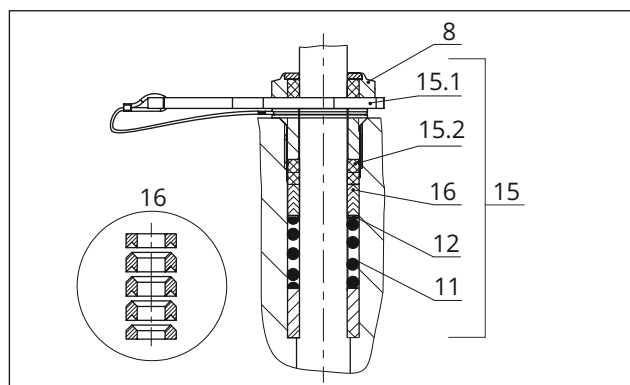

Fig. 31: ADSEAL packing
- Spring (11)
- Shim (12)
- Packing rings (16)
4. Insert the red spacer ring (15.1) between the threaded bushing (8) and retaining ring (see Fig. 31).
13. Place the flange (2) onto the body.
14. Carefully slide the packing parts over the plug stem into the packing chamber using a suitable tool. Observe the proper sequence (see Fig. 30 and Fig. 31).
15. Firmly press the plug (5) into the seat (4). Fasten down the flange (2) with the body nuts (14). Tighten the nuts gradually in a crisscross pattern. Observe tightening torques.
16. Screw in the threaded bushing (8) and tighten it. Observe tightening torques.
17. Loosely screw the lock nut (10) and stem connector nut (9) onto the plug stem.